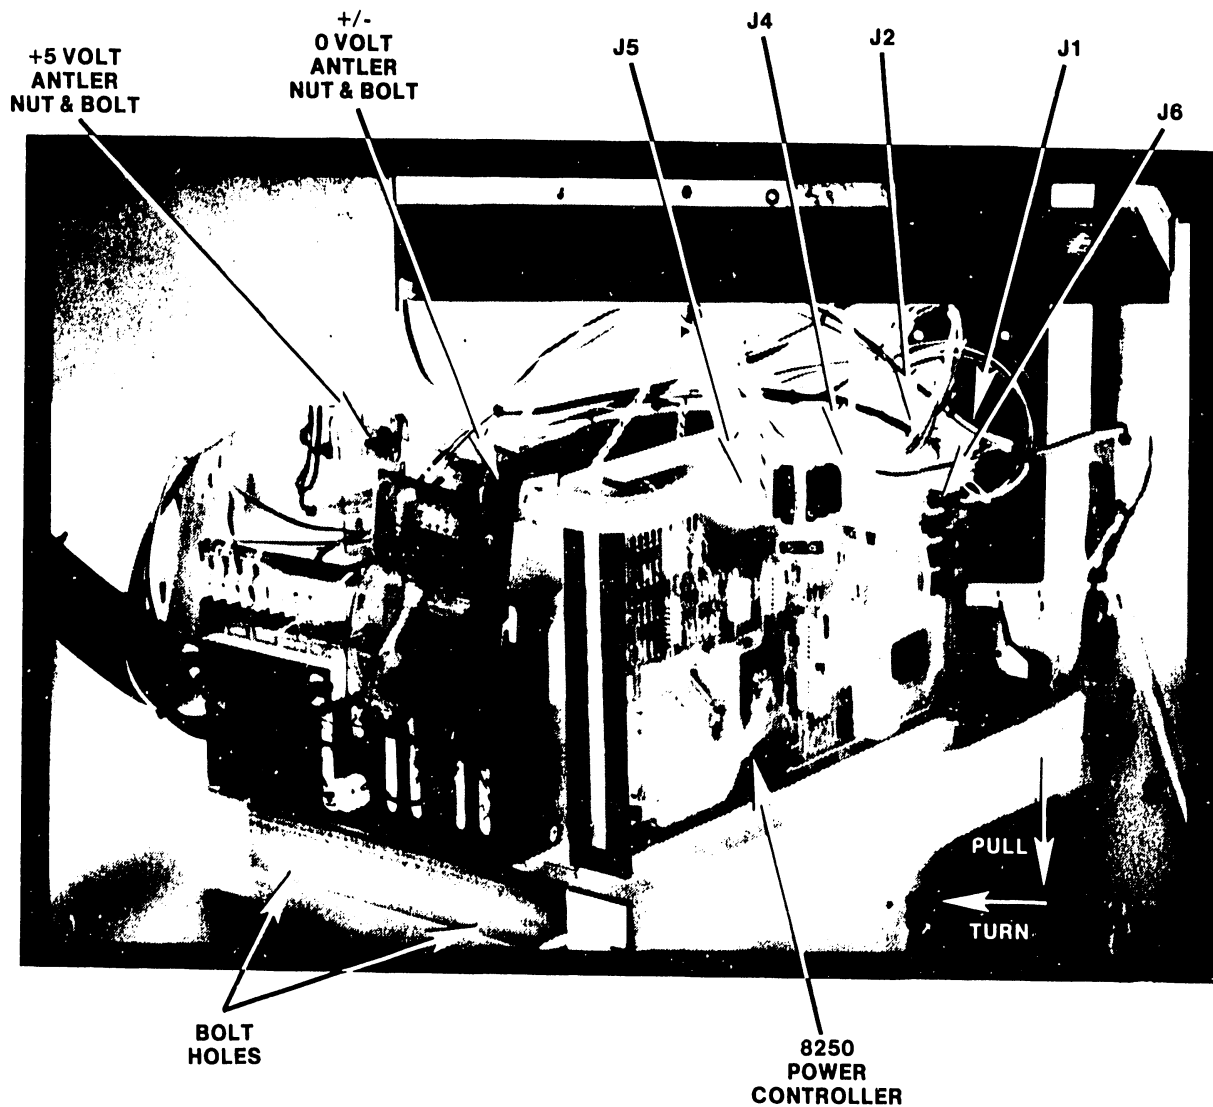

Figure 5-38A. VS-85 Switching Power Supply Removal
3. Make sure that the 6-pin connector at J6 of the Power Controller board (figure 5-38A) is reinstalled in the correct orientation. This connector can be forced on upside down. (Even though connectors J6 through J9 are common connectors, use J6.)